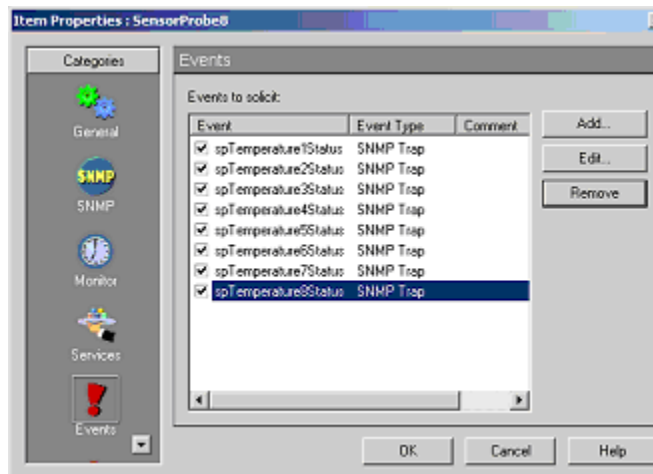

Figure 11 Trap events assigned to the ServSensor Camera
- 3.7. Repeat setup 3.3 to 3.6 to add all spTemperature2Status to spTemperature8Status as show in Figure 11.